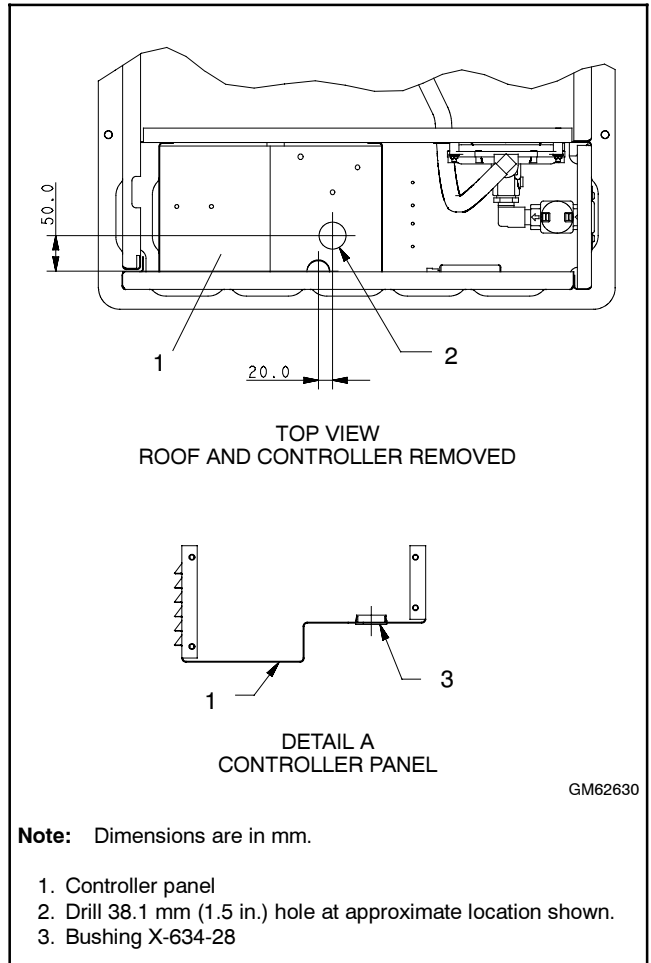

Figure 12 Cable Opening and Bushing for Y-Harness GM62626
- c. Drill a 38.1 mm (1.5 in.) hole in the bottom of the junction box as shown in Figure 12. Insert bushing X-634-28 into the hole.